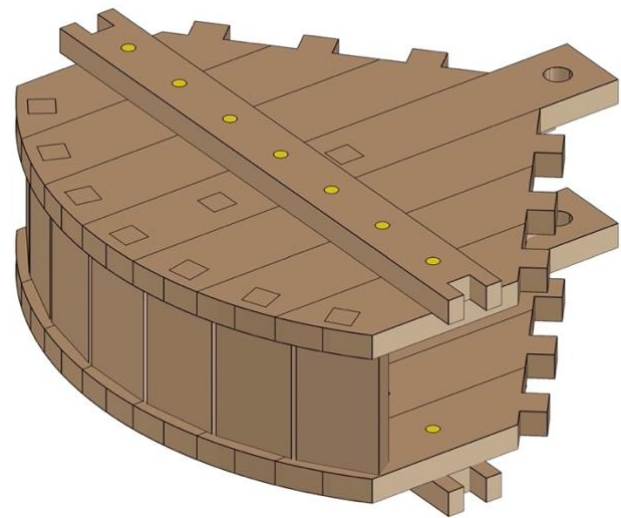

Fig. 80
- *Fig. 80* shows the completed process.